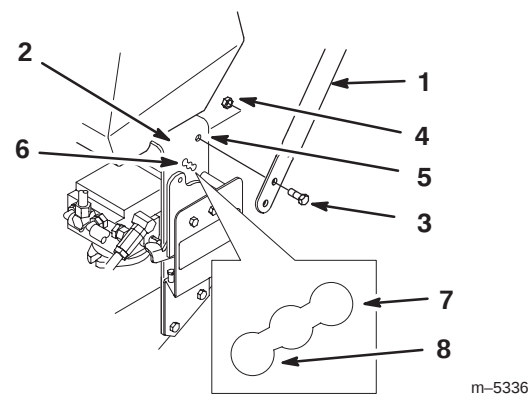

Figure 3
- Align upper handle with upper mounting holes in rear frame (Fig. 3).
- Secure each upper mounting hole with a flange bolt (3/8 x 1 in. (26mm)) and flange nut (Fig. 3). Torque bolts to 25 ft. lbs. (34 N.m).
- Select high, medium or low position for the lower mounting hole (Fig. 3). This allows the upper handle to be adjusted to the user's height preference.
- Secure each lower mounting hole with a flange bolt (3/8 x 1 in. (26mm)) and flange nut (Fig. 3). Torque bolts to 25 ft. lbs. (34 N.m).